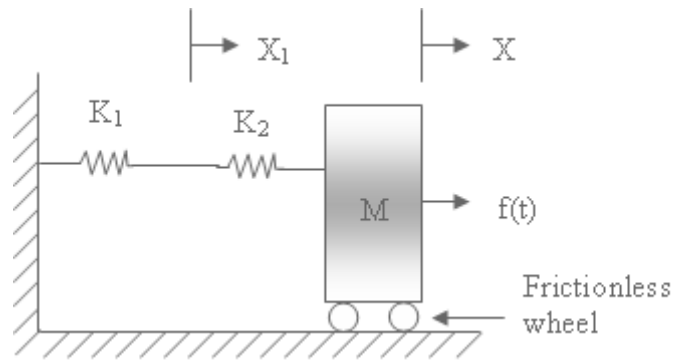

Figure 1
6. (a) Obtain the transfer function of the following system shown in figure 1 and draw its analogous electrical circuit.